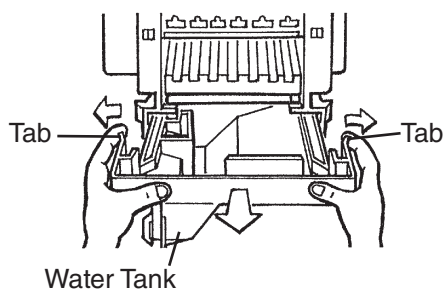

Fig. 37
- 5) Spread out the tabs to unlock the water tank, then slide it out. See Fig. 37.